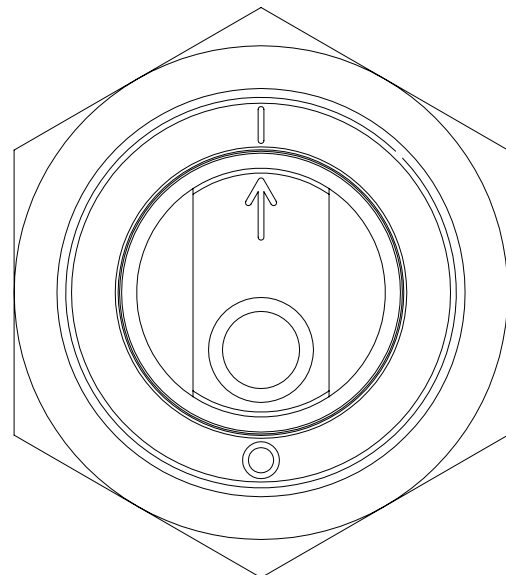

Figure 3
6. Rotate the centre shaft through 180° to the position shown in Figure 3.
7. Rotate the centre shaft through 180° to the position shown in Figure 3.
14. Rotate the centre shaft through 180° to the position shown in Figure 3.